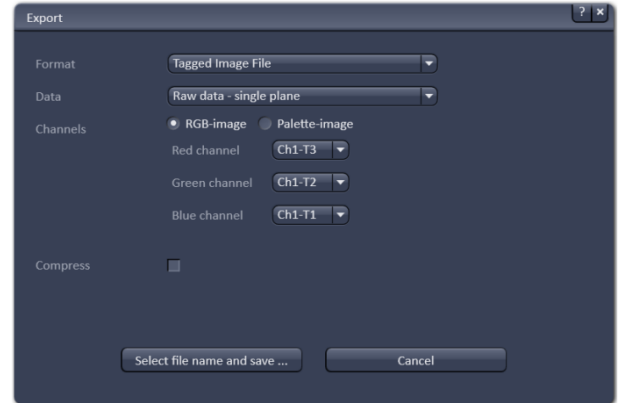

Fig. 710 Export window
- This opens the **Export** window (Fig. 710).